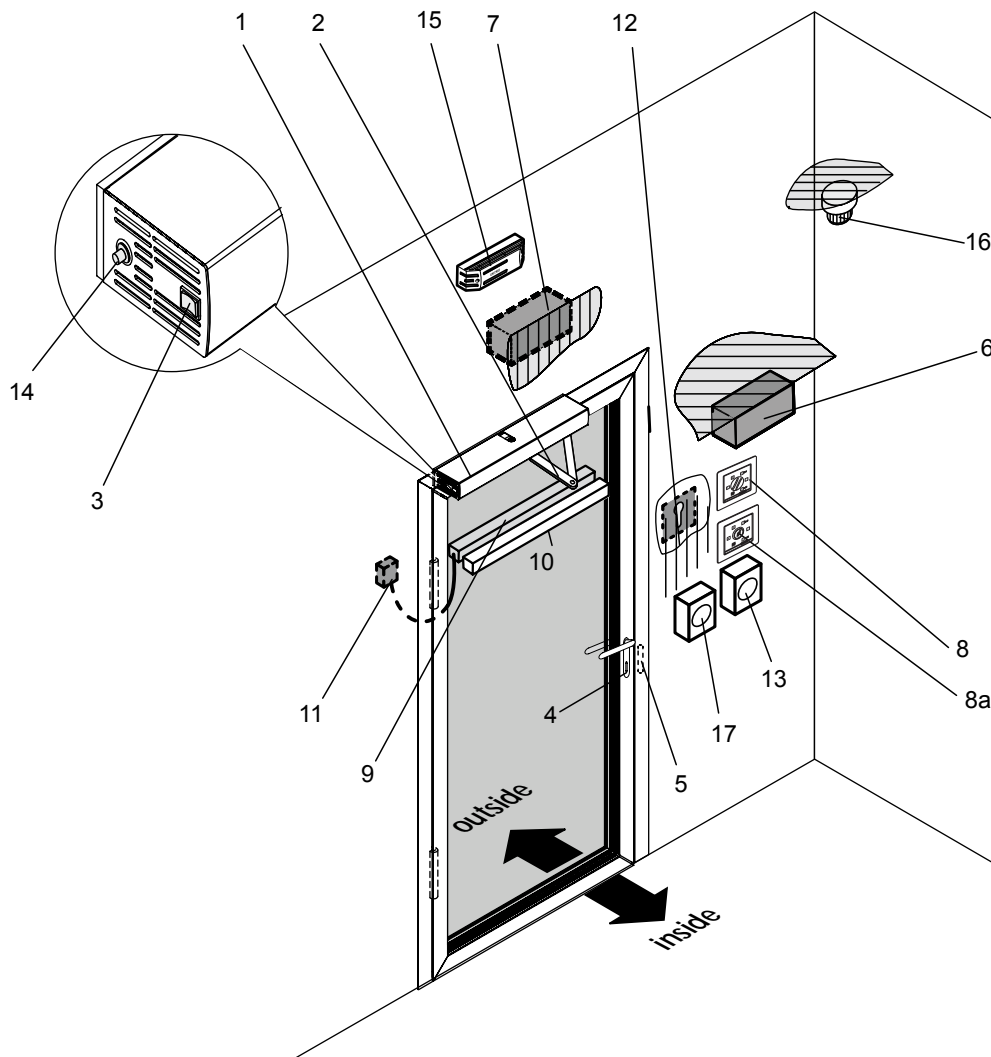

Fig. 1 Example: TSA160NT F door drive, 1-leaf, head mounting
- The door drive unit can be placed in head mounting (Fig. 1) on the lintel on the hinge side or opposite side.